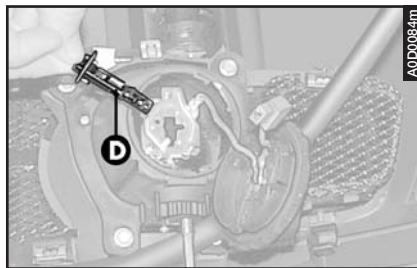

fig. 52
- Release the clip and remove the bulb (**D- fig. 52**).